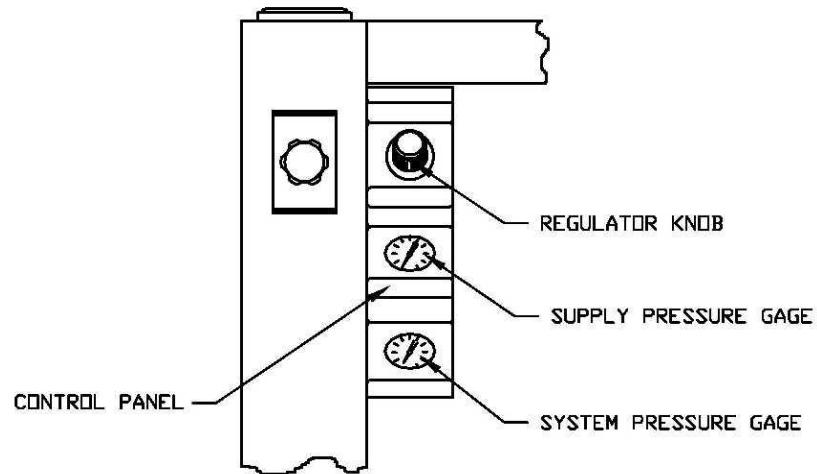

Figure 4. 9100/9200 Series Control Panel Illustration
5. Turn on the source air supply and adjust the Filter Regulator on the Control Panel clockwise to approximately 80 PSI. It is advised not to exceed 80 PSI supply pressure (as shown on Fig. 4).